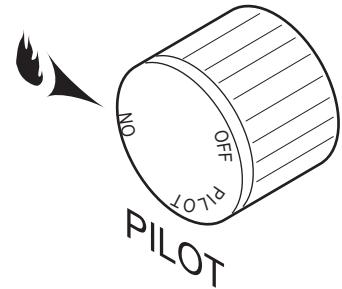

Figure 49 - On Position
Depress and turn the knob counterclockwise  to the "ON" position. *Figure 49*. It will take less than four (4) seconds for the burner to ignite.